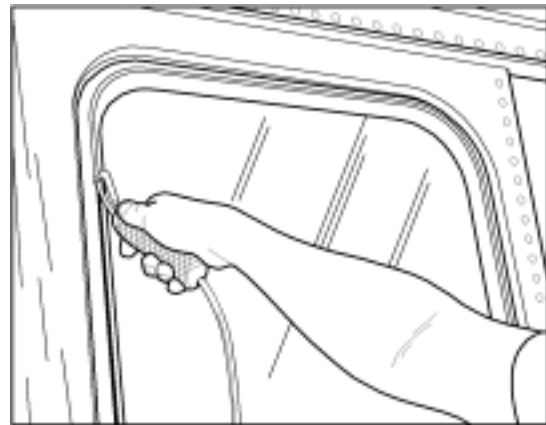

Figure 7—Filler Strip Tool
8. Using filler strip tool, insert filler strip into channel on glazing rubber. Filler strip tool is available from your distributor. **Figure 7.**